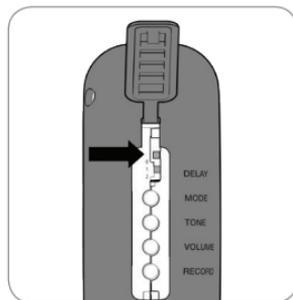

Fig. 13
**NOTE:** The alarm supports both normally open and normally closed nurse call systems. The manufacturing default is normally open. If you would like to change to normally closed, use a small pointed object, for example a pen, to slide the switch down to the closed position. (Fig. 13)